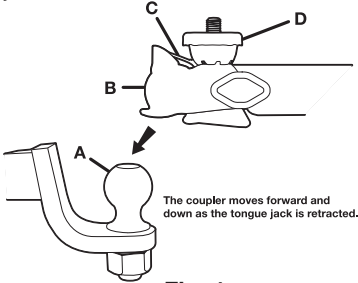

Fig. 1
Position the tow vehicle to locate hitchball (A) forward of the coupler (B) as shown (Fig. 1). Push down on the latch (C) and fully loosen handwheel (D) by turning counter-clockwise. Lower the coupler onto the hitchball by fully retracting the tongue jack.